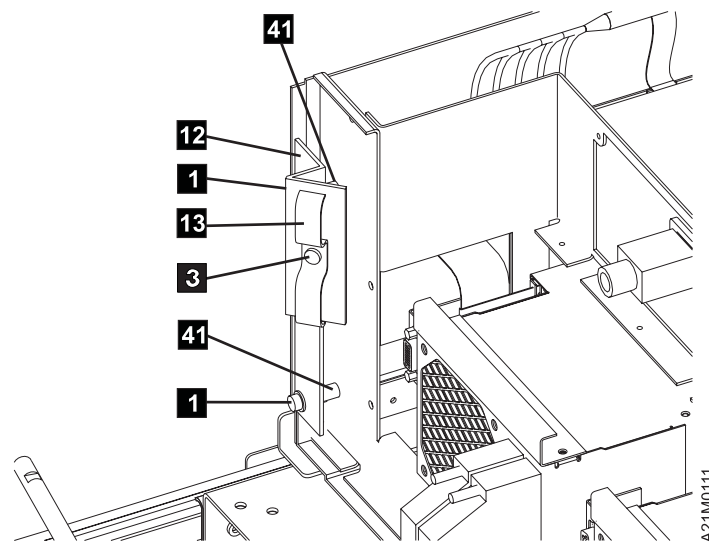

Figure 41. Attaching Cable Strain-Relief “Z” Bracket and Clamp
- ___ Step 8. See Figure 41 to install the cable strain-relief “Z” bracket **12** at the standoffs **41** at the rear of the library. Use two socket head screws **1**.